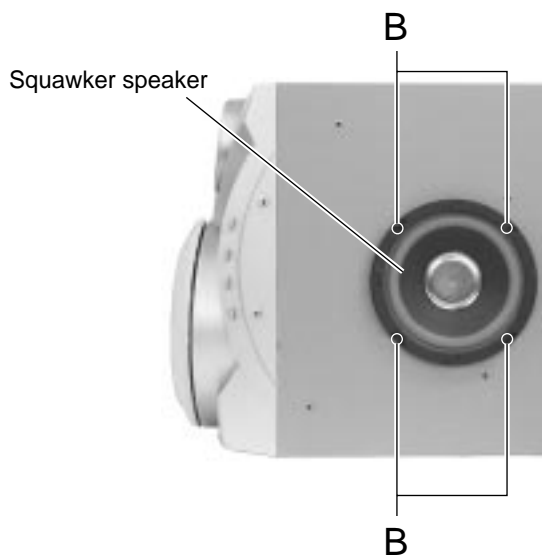
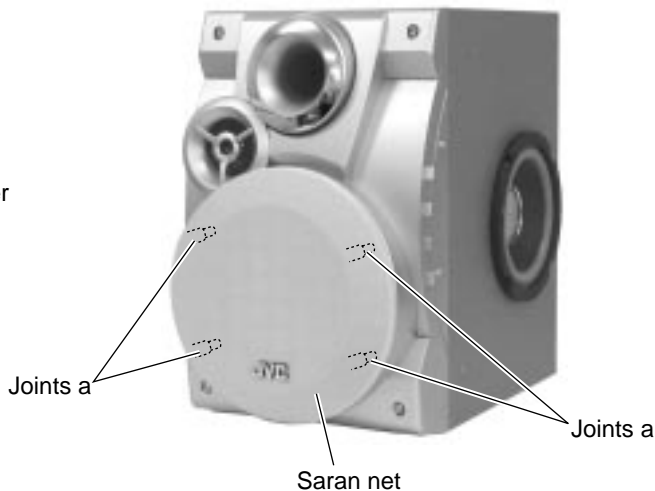

Fig.2
Fig.3
2. When the flywheel R is rotated in counterclockwise direction, the playback / recording & eraser head will be turned in counterclockwise direction from the position in Fig.2 to that in Fig.3.
### ● Reassembling the playback, recording and eraser heads (See Fig.3)
1. Reassemble the playback head from the front of the head mount to the position as shown in Fig.3.
4. Attach the flexible P.C.board to the chassis base as shown in Fig.3.
(See Fig.2)
### ■ Removing the front cover (See Fig.3 to 6)